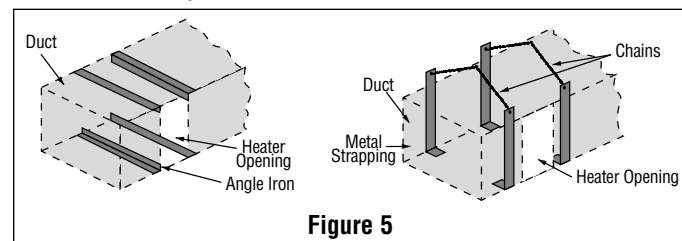

Figure 5
- For heater weights greater than 35 pounds (see Specifications Table A, page 1) due consideration should be given to; (a) mechanically strengthening duct work with, for example, angle irons or chains (see Figure 5), and (b) heat insulating duct line in immediate area of heater location to prevent excessive heat loss. Consult your local sheet metal contractor.